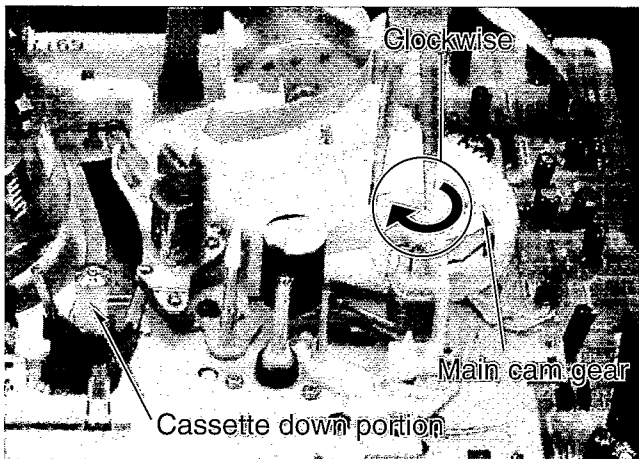

Fig. A1
- (1) Disconnect the AC power cord and remove Top Panel.
- (2) Rotate Main cam gear to the clockwise and unload the mechanism (Tape is remaining) (Fig. A1).